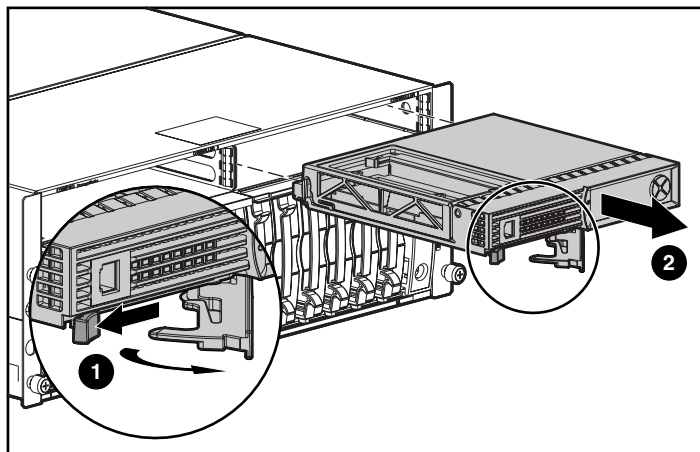

Figure 3: Removing the MSA1000 Controller from an MSA1000
1. Press the controller's thumb latch and pull the latch handle toward you ❶.
2. Remove the MSA1000 Controller by pulling it straight out of the chassis ❷, as illustrated in Figure 3.